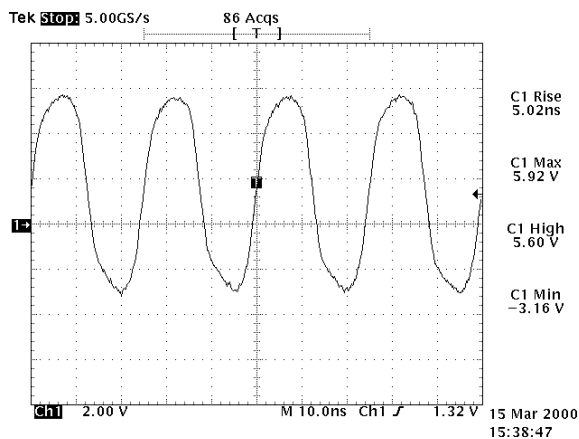

Figure 1: with ext.;  $10\ \Omega$
- With extender; open; 5.92 5.60 -3.16 V (enormous over- and undershoot). A picture of this configuration is available (figure 1).